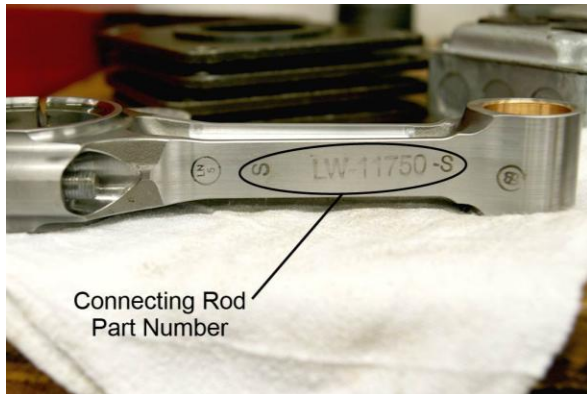
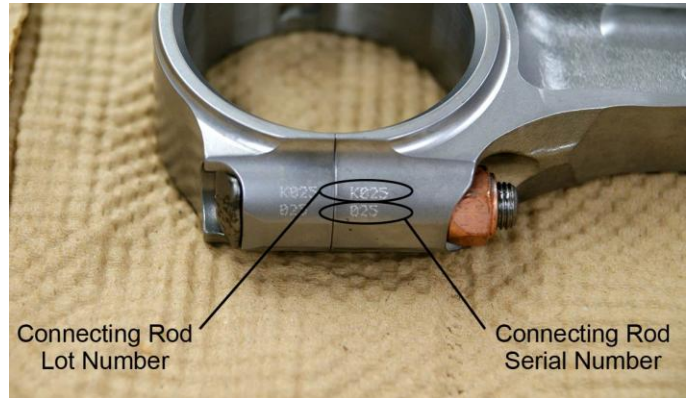

Figure 11
Figure 12
- (5) Record the results of the “Connecting Rod Bushing Press-Out Verification Procedure” and the part number (Figure 11), lot number, and serial number (Figure 12) of each connecting rod on Lycoming Engines’ online survey at www.lycoming.com/SB632.
- (1) Order new parts as necessary. Refer to the “Parts Required Table” in the Parts Required for Reassembly section of this Service Bulletin.
- (2) Reinstall the piston, piston pin, piston pin plugs, and cylinder per instructions in the applicable Lycoming Engines’ manual using new seals and gaskets identified in the Top Overhaul Gasket Kit in this Service Bulletin. Use new hardware where specified in this Service Bulletin.
- (3) Record the results of the “Connecting Rod Bushing Press-Out Verification Procedure” and the part number (Figure 11), lot number, and serial number (Figure 12) of each connecting rod on Lycoming Engines’ online survey at www.lycoming.com/SB632.